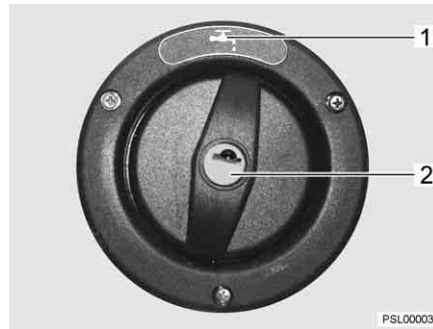

Fig. 205 Cap for the drinking water filler neck
The drinking water filler neck is indicated by the symbol "☞" (Fig. 205,1). The cap is open and closed using the key for the external flap locks.
- Insert key into locking cylinder (Fig. 205,2) and turn a quarter turn in an anticlockwise direction.